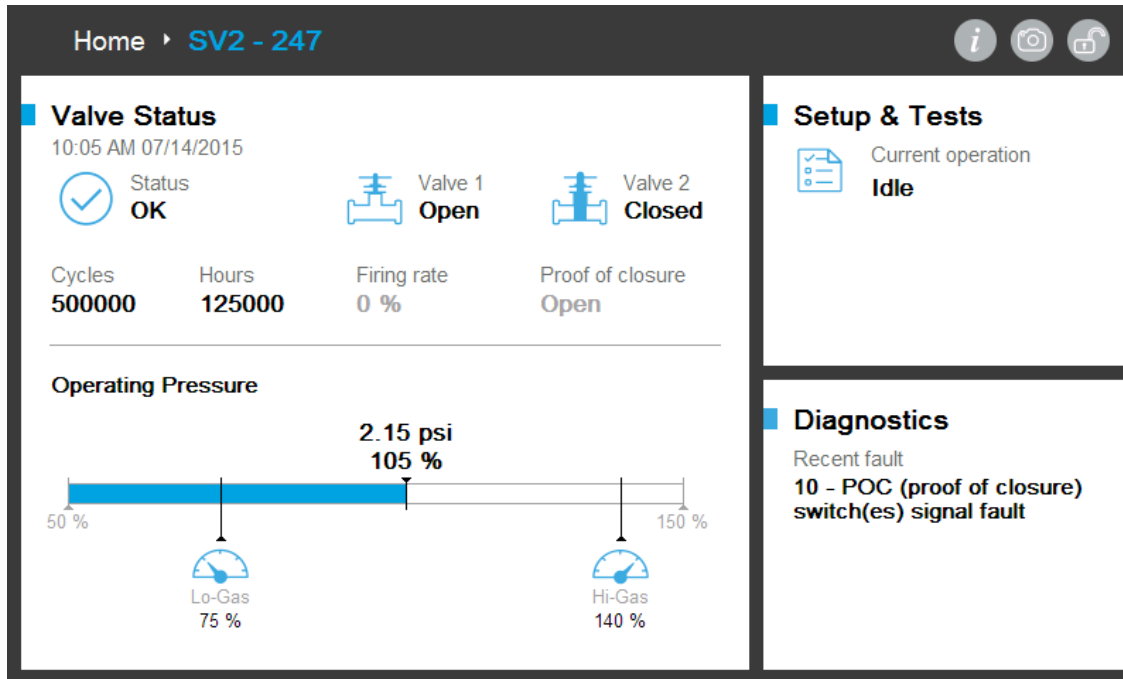

Fig. 33. Connected valve status.
**Setup & Tests** Selected on Valve Status page. Refer to Fig. 33.